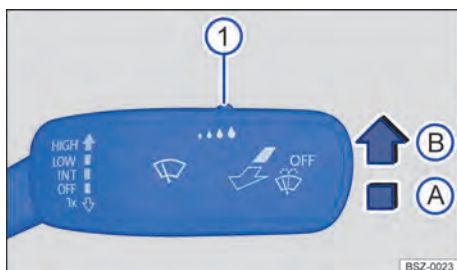

Fig. 88 On the right of the steering column: wiper lever.
1. Push the lever to the desired position → Fig. 88.
The sensitivity of the rain and light sensor can be adjusted manually using the switch in the wiper lever → Fig. 88 ① → ⚠.